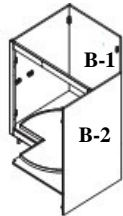

Figure 5
5. Insert right side panel (B-2) connect with the face frame (A) Align the cam lock connectors (Figure 5).